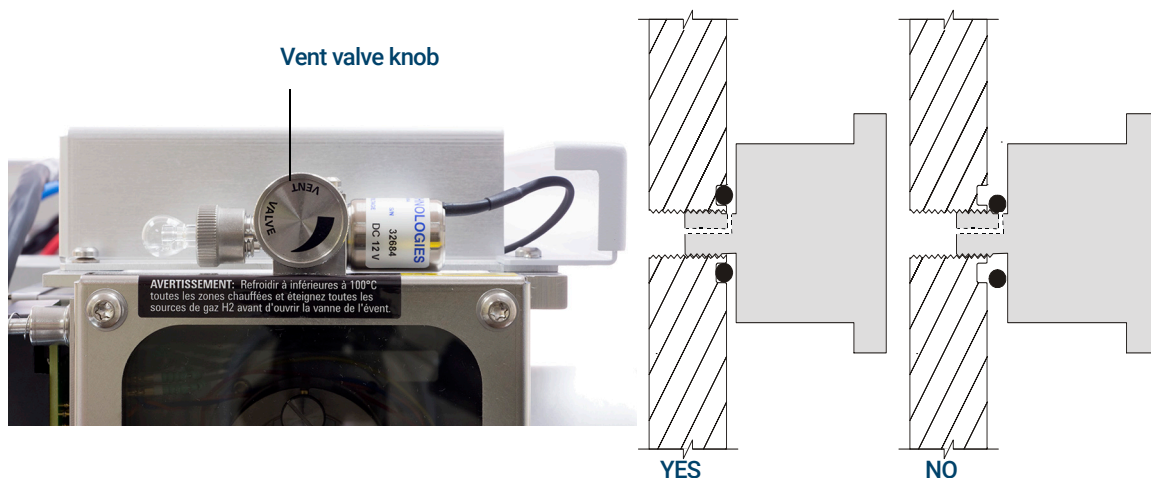

Figure 42. The MS vent valve knob
- 8 Turn the vent valve knob counterclockwise **only** 3/4 turn or until you hear the hissing sound of air flowing into the analyzer chamber. (See Figure 42.)